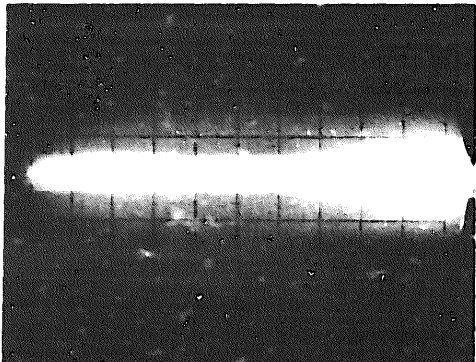
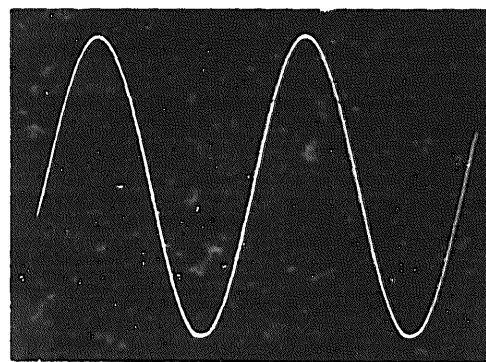

Figure 1-8. Single-shot trace bloom caused by INTENSITY and or PERSISTENCE set too high
Figure 1-9. Single-shot display with INTENSITY and PERSISTENCE set the same as Figure 1-7
- g. **BLOOM** - A visible, non-symmetrical expansion of a display written on the CRT screen, Figure 1-8.
a. **PERSISTENCE** and **INTENSITY**. These controls contribute to the duration of afterglow of a display. Always set **PERSISTENCE** and **INTENSITY** as shown in Figure 1-8. The **PERSISTENCE** control sets the rate at which a display is erased; **INTENSITY** sets the brightness of the trace as it is written. With a given **PERSISTENCE** setting, the actual duration of trace afterglow may be increased by increasing the **INTENSITY**. Since the **PERSISTENCE** control sets the rate of erasing a written display, it follows that a brighter trace will require more time to be erased. Conversely, a display of low intensity will disappear more rapidly. The same principle applies to a stored display of high and low intensity.
Trace blooming, Fig. 1-8, is the best indicator of excessive **INTENSITY** which can damage the CRT. However, blooming does not occur when **PERSISTENCE** is set to **NORMAL**. Therefore, **DO NOT INCREASE INTENSITY WHEN PERSISTENCE IS SET TO NORMAL**. Always be sure to repeat above procedure each time sweep speed or input signals change.
approach. The amplitude of the phenomena and the sweep-time required to display it will affect the persistence. For example, with maximum PERSISTENCE and some settings of INTENSITY, a single-shot straight-line trace may bloom, Fig. 1-8, and a single-shot signal with amplitude variations of several centimeters may not cause blooms, Fig. 1-9. To determine the best INTENSITY setting, connect a signal which approximates the sweep time and amplitude of the single-shot signal to be written. Set PERSISTENCE fully clockwise and trigger a single sweep of the test signal. Set the INTENSITY as far clockwise as possible without causing blooming. Repeat the single sweep signal, erasing the display and setting the INTENSITY after each trace until the desired display is obtained. This setup should give maximum persistence to the single-shot display. After the single-shot signal has been written, turn the Presentation Selector to STORE to retain the display.